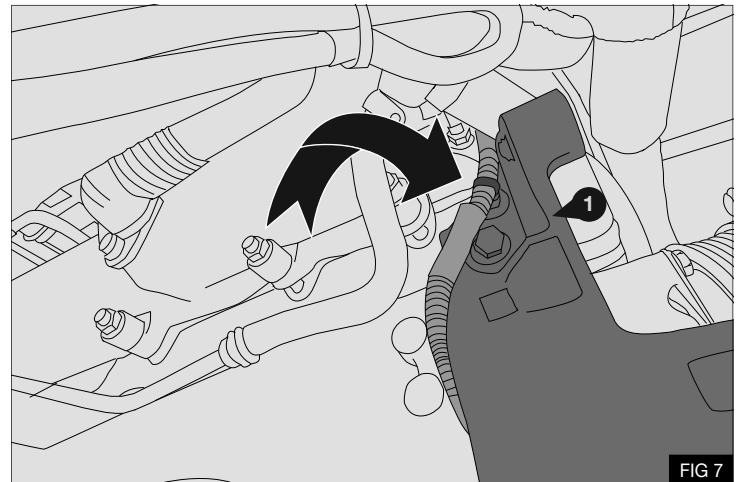

FIG 7
4. Fit loom support into the hole provided in mount bracket - Fig 7